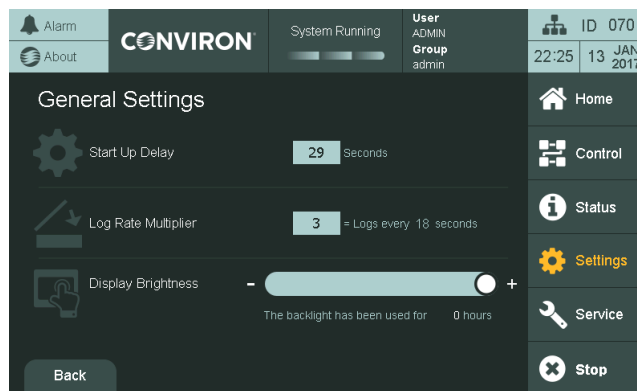

Figure 9-3 Log Rate Multiplier
2. In the **Log Rate Multiplier** field (Figure 9-3), enter 1 to change the log rate to every 6 seconds, 10 for every 60 seconds, or any other applicable value.